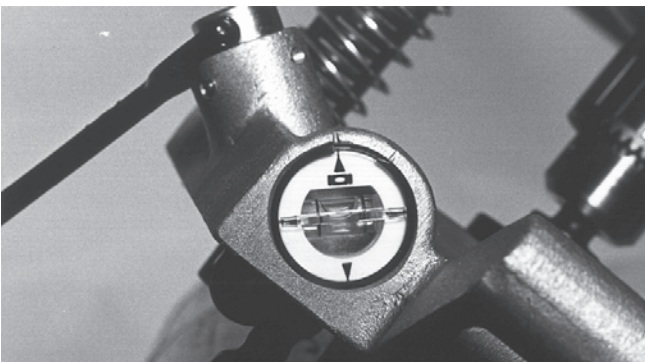

Figure 6 – HC-450 Hole Cutting Tool Level Vial
4. The base of the HC-450 Hole Cutting Tool includes a level vial that can be used to align a series of holes. When the Hole Cutting Tool is placed at the desired angle, the vial can be rotated to the level position, and subsequent holes can be made at the same angle by leveling the Hole Cutting Tool with the vial. (See Figure 6)